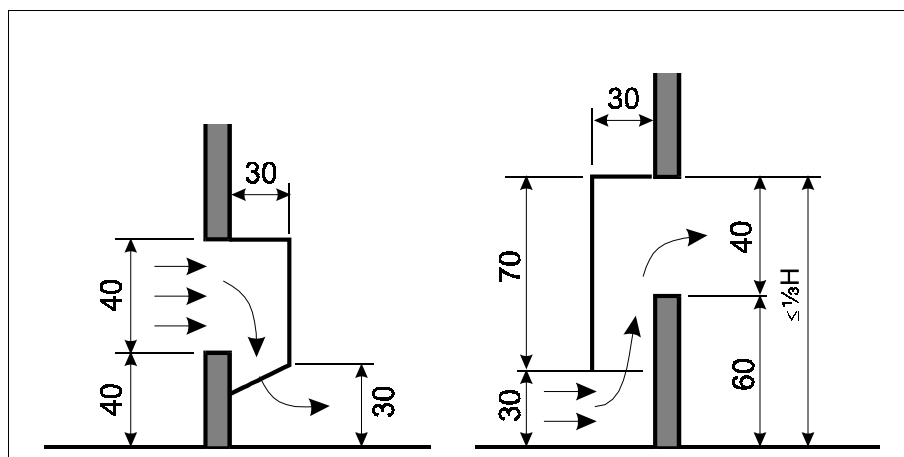

Fig. 17 Air inlet openings (sizes in cm)
- Ventilation openings should be placed so that the boiler room is equally ventilated. More inlet openings in roof top boiler rooms should be used and situated at regular distances. By internally or externally casing the inlet openings the negative influence of wind on the boiler room can be minimised (see fig. 17).